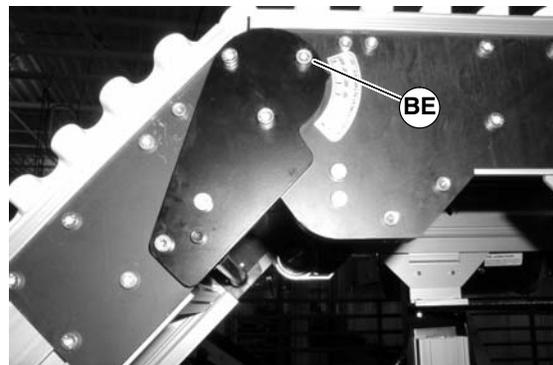
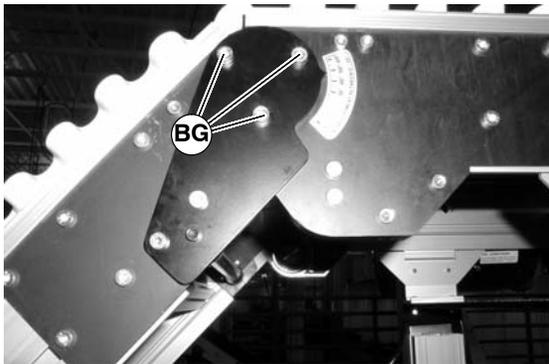

Figure 45
Figure 47
1. Conveyor is shipped from factory locked in the flat position, to unlock conveyor knuckle remove the gold screw (BE of Figure 45) on both sides of the conveyor.
- Loosen screws (BG of Figure 47) on both sides of knuckle.
- Tighten screws (BG of Figure 47) on both sides of knuckle to 100 in-lbs (12 N-m). If applicable, replace the gold locking screw (BE of Figure 45).
- Conveyor is shipped from factory locked in the flat position, to unlock conveyor knuckle remove the gold screw (BE of Figure 45) on both sides of the conveyor.
5. Tighten screws (BG of Figure 47) on both sides of knuckle to 100 in-lbs (12 N-m).